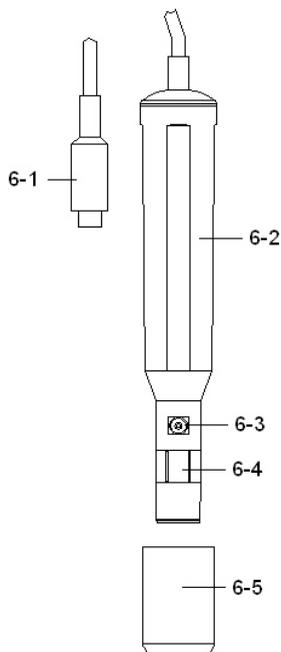

Fig. 4
- 1) Prepare the Oxygen Probe ( optional, DOPB-11 ), install the " Probe Plug " ( 6-1, Fig. 4 ) into the " DO Socket " ( 3-15, Fig. 1 ).
- 1) Install the " Probe Plug " ( 6-1, Fig. 4 ) into the " DO Socket " ( 3-15, Fig. 1 ).
**5)When not use the probe, should insert the " Probe head " into the " Probe protection cover " ( 6-5, Fig. 4 )**